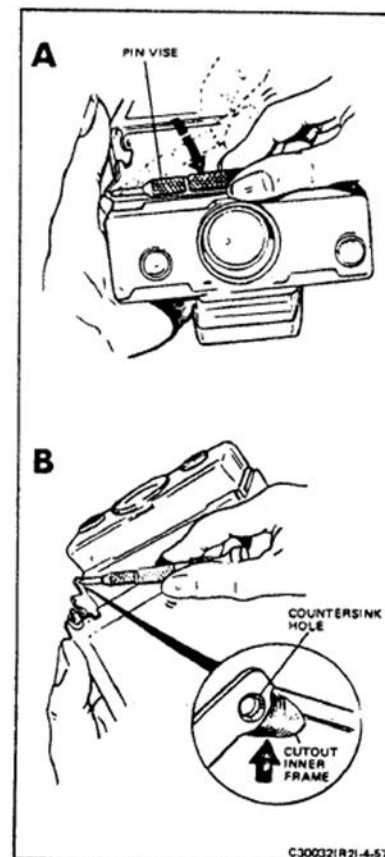

FIGURE 4-58 RIVETING THE SHUTTER HINGE BRACKET
- With a #1 center drill held in a hand pin vise, cut away a clearance area on the inner frame to provide enough room for the rivet installation (see Figure 4-58 "A"). Use extra care when start-
ing to cut into the plastic since excess force could break the bond between the inner frame and the bottom plate assembly. Start cutting with the tool held at an angle as shown in Figure 4-58 "A". When the cutout is well started, lower the angle of the drill to complete cutting the inner frame. When done it should look like the inset in Figure 4-58 "B".
- f. Also using the #1 center drill, countersink the hole in the bottom plate assembly as shown in Figure 4-58 "B".
33. Refer to Figure 4-58. Install the three machine screws and the self-tapping screw to secure the gear-train assembly (see "Repairs/Adjustments").